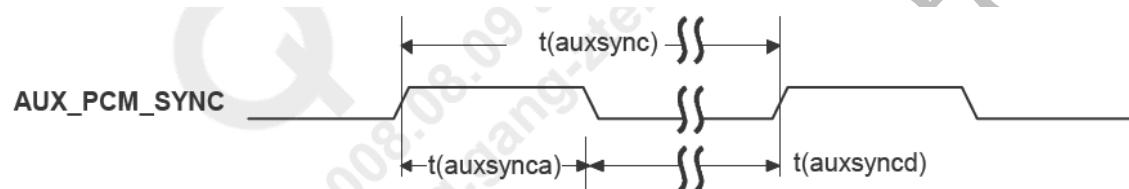

Figure19: AUX_PCM_SYNC timing
- 5) If use an audio amplifier for speaker, optional EMI filtering is shown at Figure19, these components (two ferrite beads and two capacitors) can be added to reduce electromagnetic interference. If used, they should be located near the EAROP and EARON.